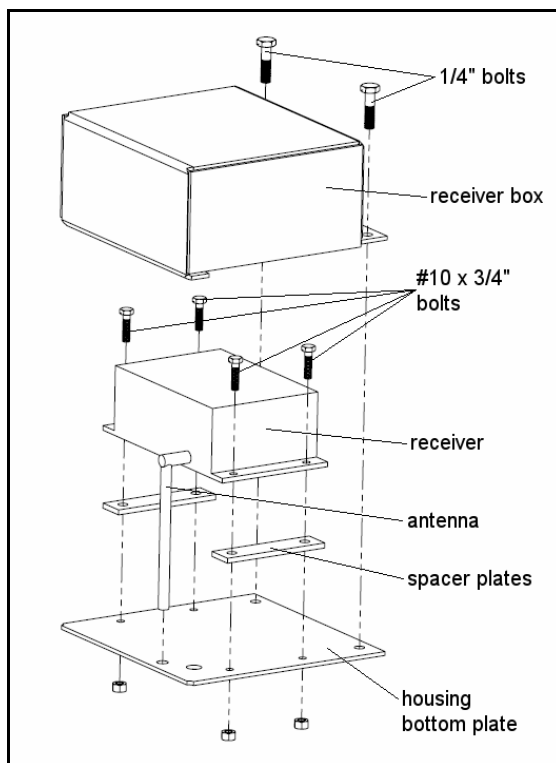

Figure 3.2
When shipped, the antenna for the Remote Powerswing receiver will be within its protective steel housing. The antenna must be positioned outside of the housing (Figure 3.2) in order to get proper reception. Follow the steps below to adjust.
1. Use two 7/16" wrenches to unbolt the two 1/4" bolts holding the protective receiver box onto the mount plate (see Figure 3.2).